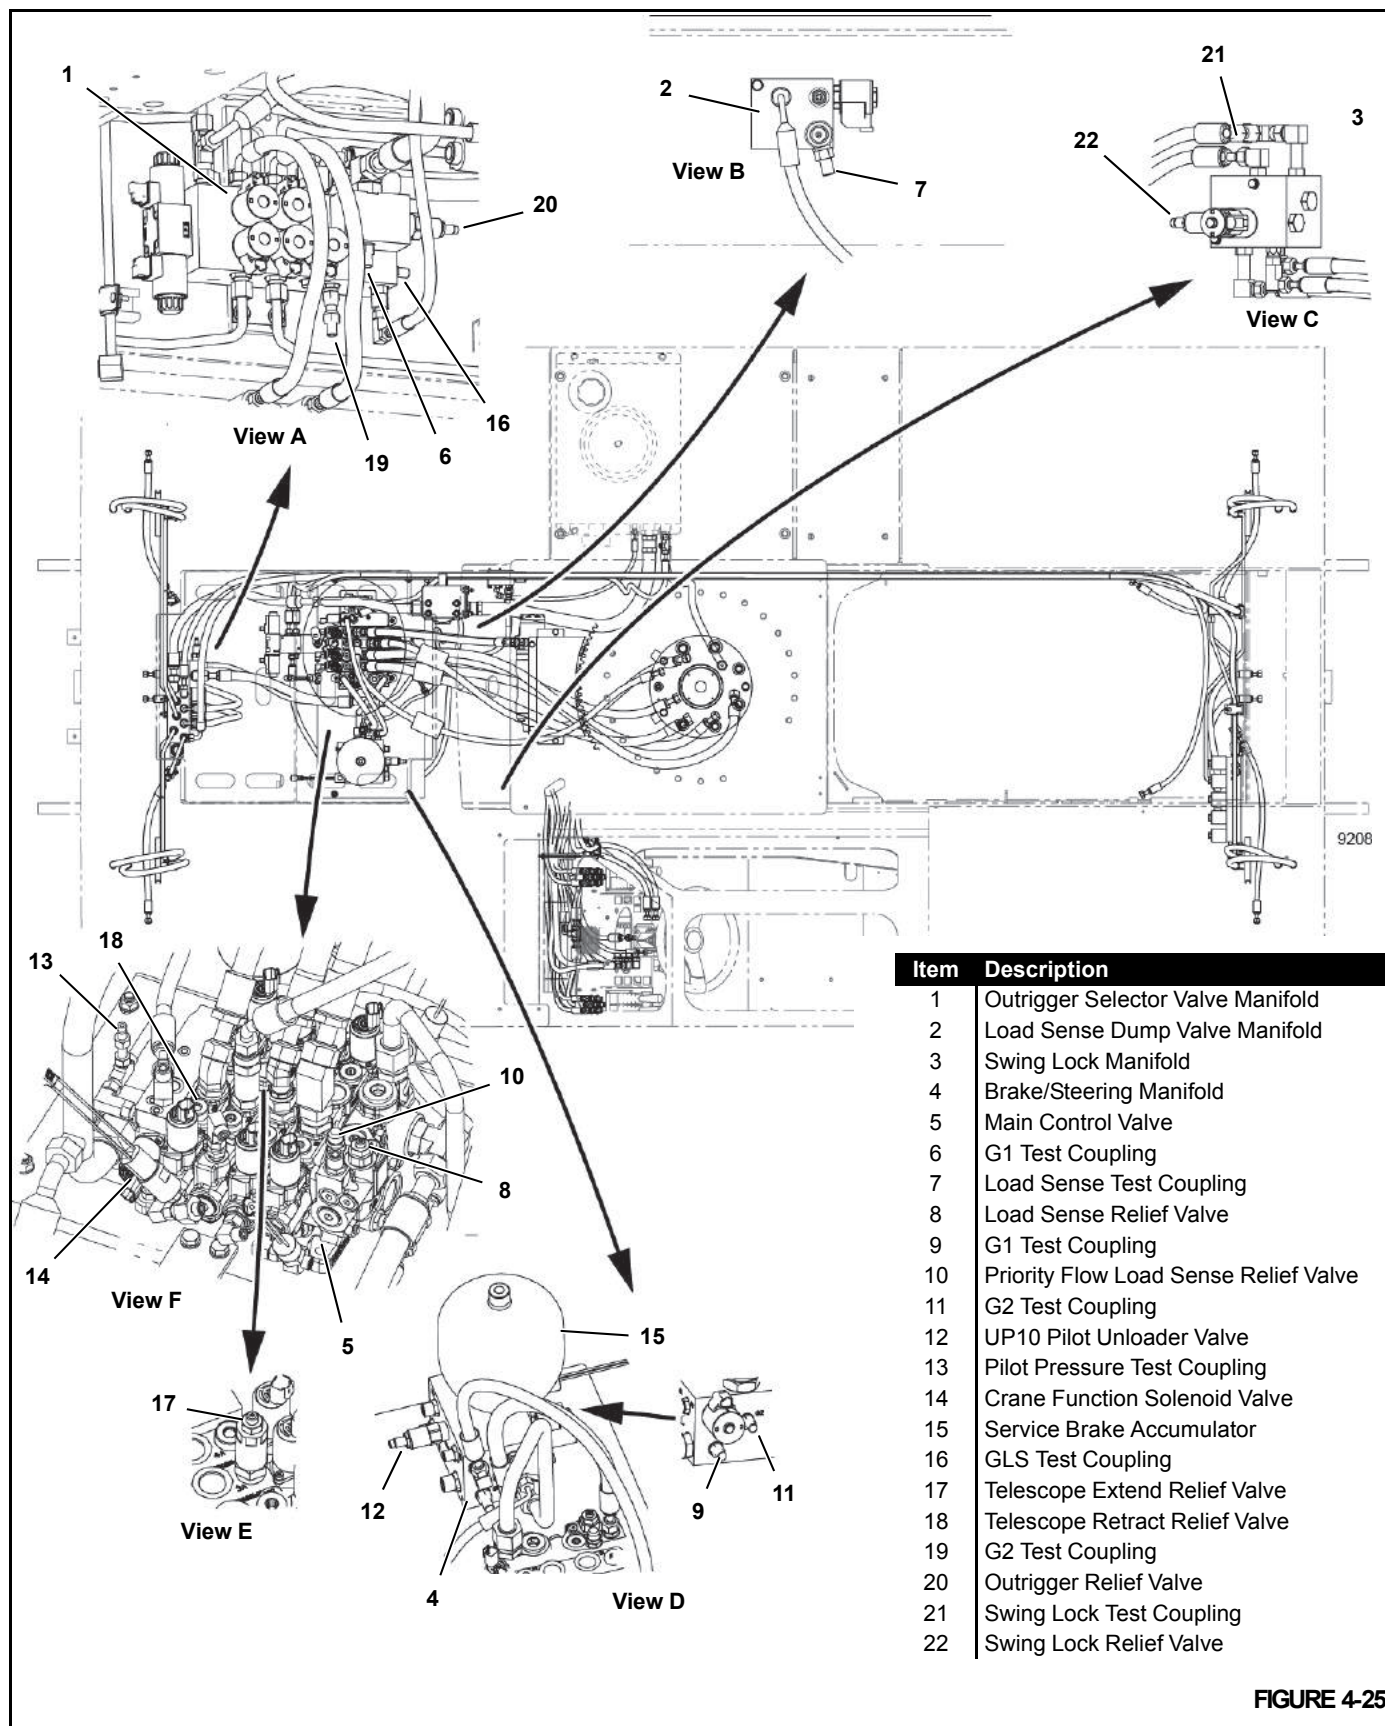

FIGURE 4-25
**NOTE:** The valves shown in Views A, D, E, and F (Figure 4-25) can be accessed by removing the cover plates from the carrier deck.
2. Attach the pressure gauge to the G1 test coupling (6, View A, Figure 4-25).
2. Attach the pressure gauge to the load sense test coupling (7, View B, Figure 4-25).
- a. Loosen the jam nut on the load sense relief valve (8, View F, Figure 4-25).
2. Attach the pressure gauge to the G1 test coupling (9, View D, Figure 4-25).
4. Remove the cap nut from the priority flow load sense relief valve (10, View F) Figure 4-25).
8. Attach the pressure gauge to the G2 test port (11, View D, Figure 4-25).
9. Loosen the jam nut on the UP10 pilot unloading valve (12, View D, Figure 4-25).
- If the proper pressures are not obtained, adjust the UP10 pilot unloading valve (12). Clockwise rotation increases pressure.
2. Attach the pressure gauge to the pilot pressure test coupling (13, View F, Figure 4-25).
6. If the pressure reading is not correct, verify the current to the crane function power solenoid valve (14, View F, Figure 4-25).
The service brake accumulator (15, View D, Figure 4-25) must be serviced by a qualified technician who is trained and thoroughly familiar with accumulator charging procedures.
2. Attach the pressure gauge to the GLS test coupling (16, View A, Figure 4-25).
- Loosen the jam nut on the telescope extend relief valve (17, View E, Figure 4-25).
- d. If the pressure reading is not correct, take corrective action. the telescope retract relief valve (18, View F, Figure 4-25) is not adjustable.
2. Attach the pressure gauge to the G2 test coupling (19, View A, Figure 4-25).
- a. Loosen the jam nut on the outrigger relief valve (20, View A, Figure 4-25).